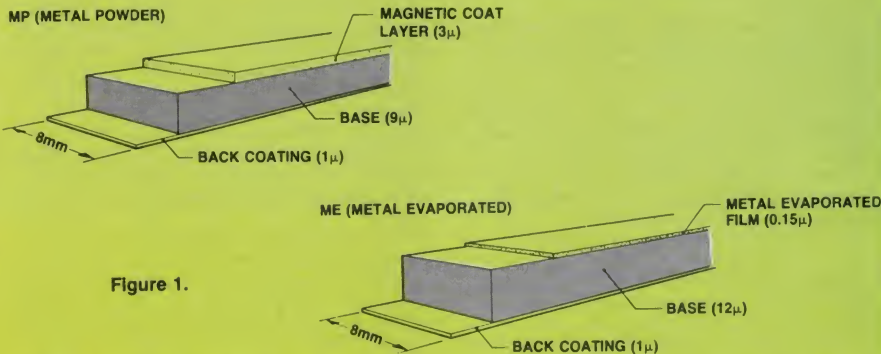

Figure 1.
The standard approves two types of tape for use on 8 mm video: metal powder (MP) and metal evaporated (ME) tapes (see Figure 1).